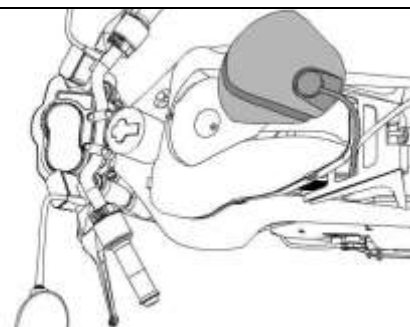

Figure 5
3. Lift exhaust power valve from air box lid and set aside. No need to disconnect it (Figure 5)